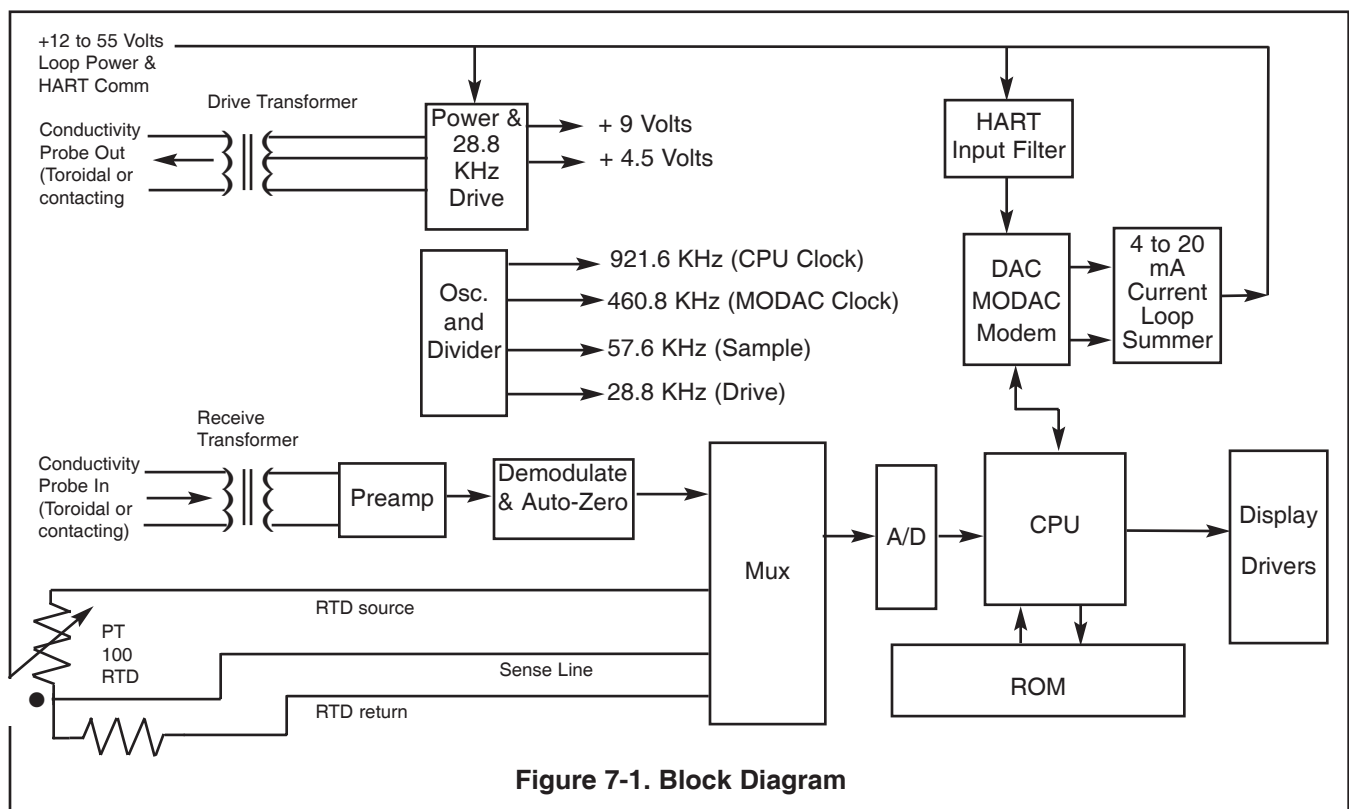

Figure 7-1. Block Diagram
7.2. OVERVIEW: Refer to Figure 7-1 2081C/T Block Diagram.